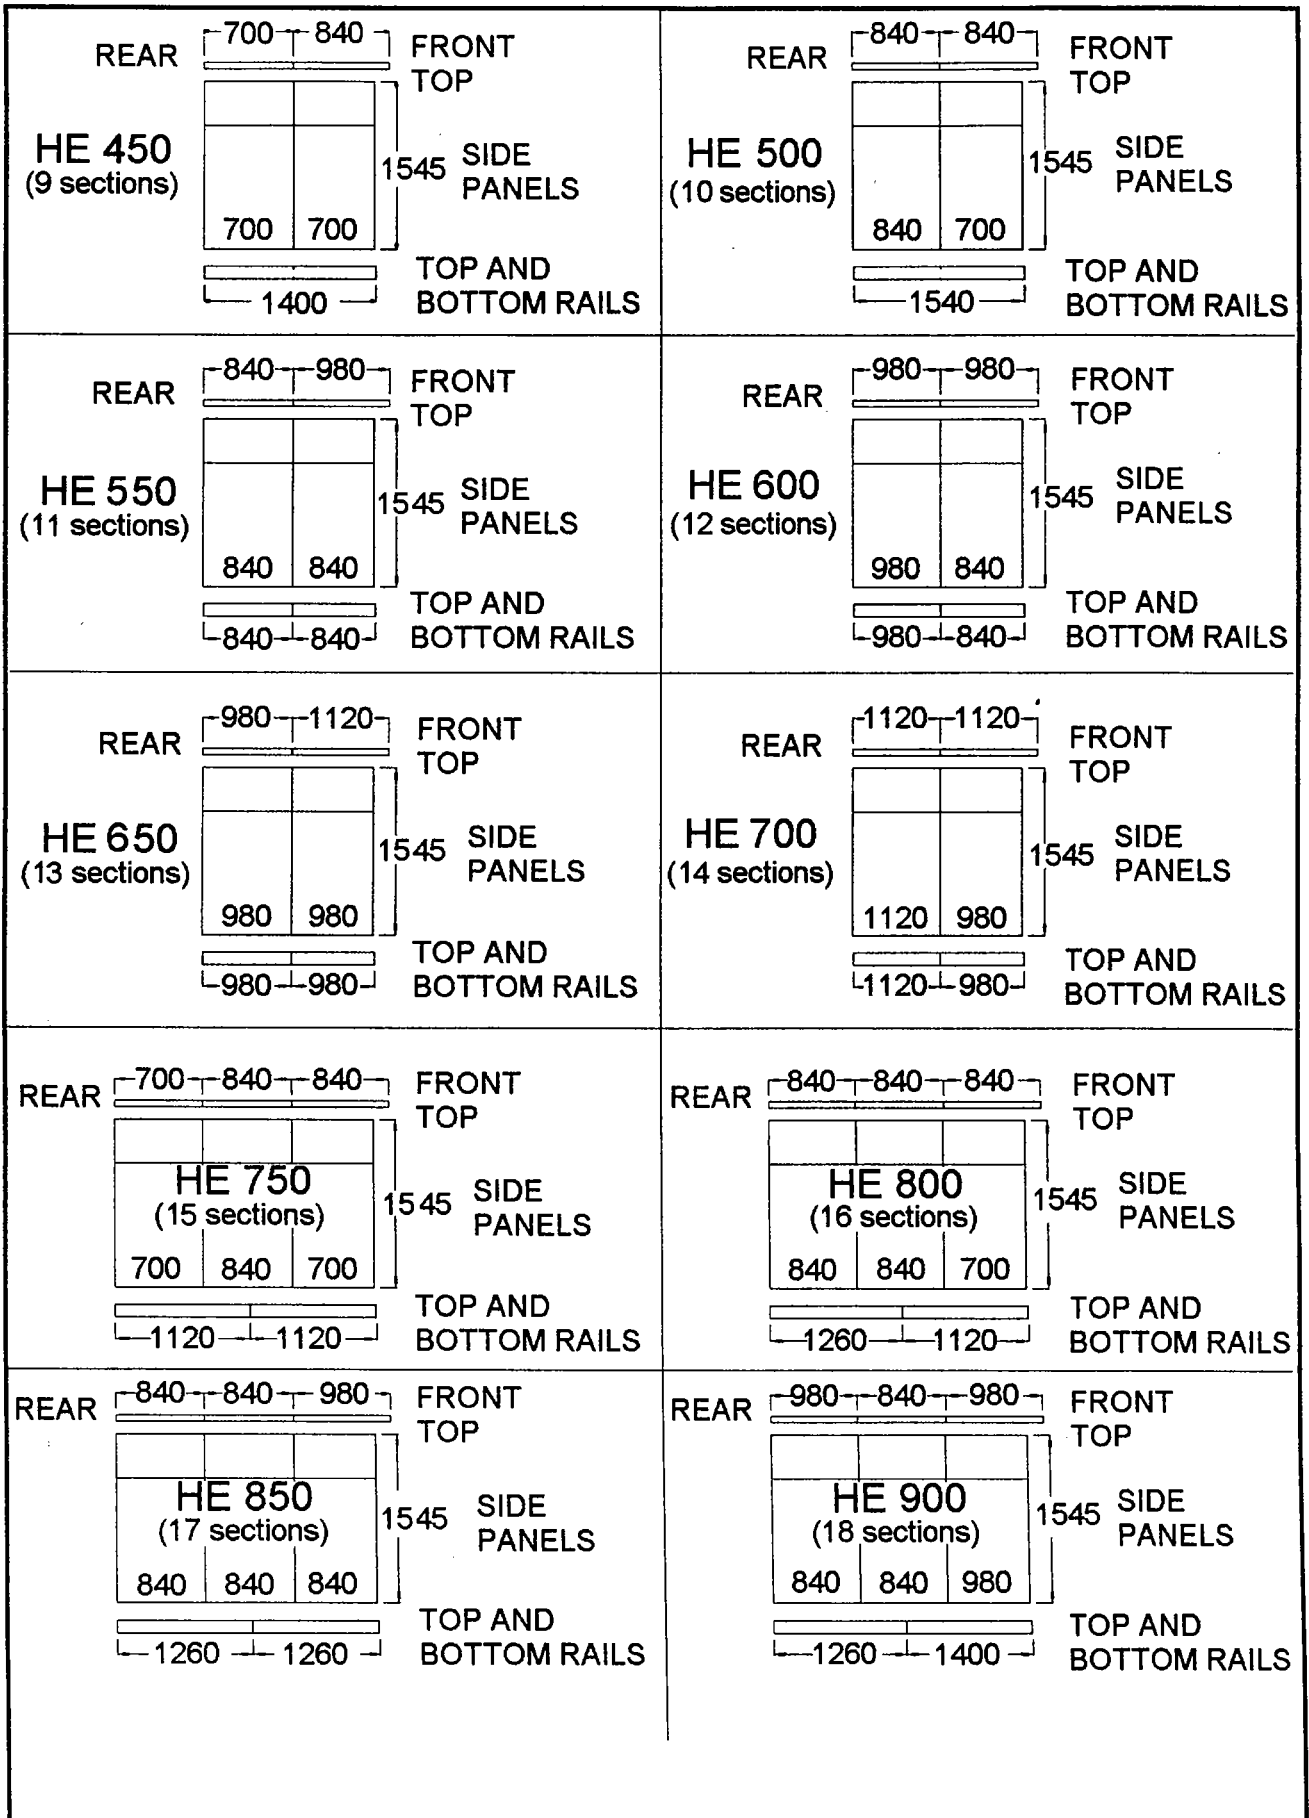

Figure 10.10 – Rail and Casing Assembly Combinations
s. Select the top panels (items 39, 40 [and 41 for 15 to 18 Section boilers]). Fit the 4 holes in the bottom returns of each top panel with studs (item 12), securing with 2BA nuts and shakeproof washers (items 13 & 14).
t. Fit the top panels in the positions shown in Figure 10.10, ensuring that the studs engage in the metal latches.
u. Select the door (item 42) and fit it with 6 off location pins (item 43), 4 off in the bottom edge of the door and 2 off in the rear edges. Secure with M4x20 screws, nuts and shakeproof washers (items 44, 45 & 46).